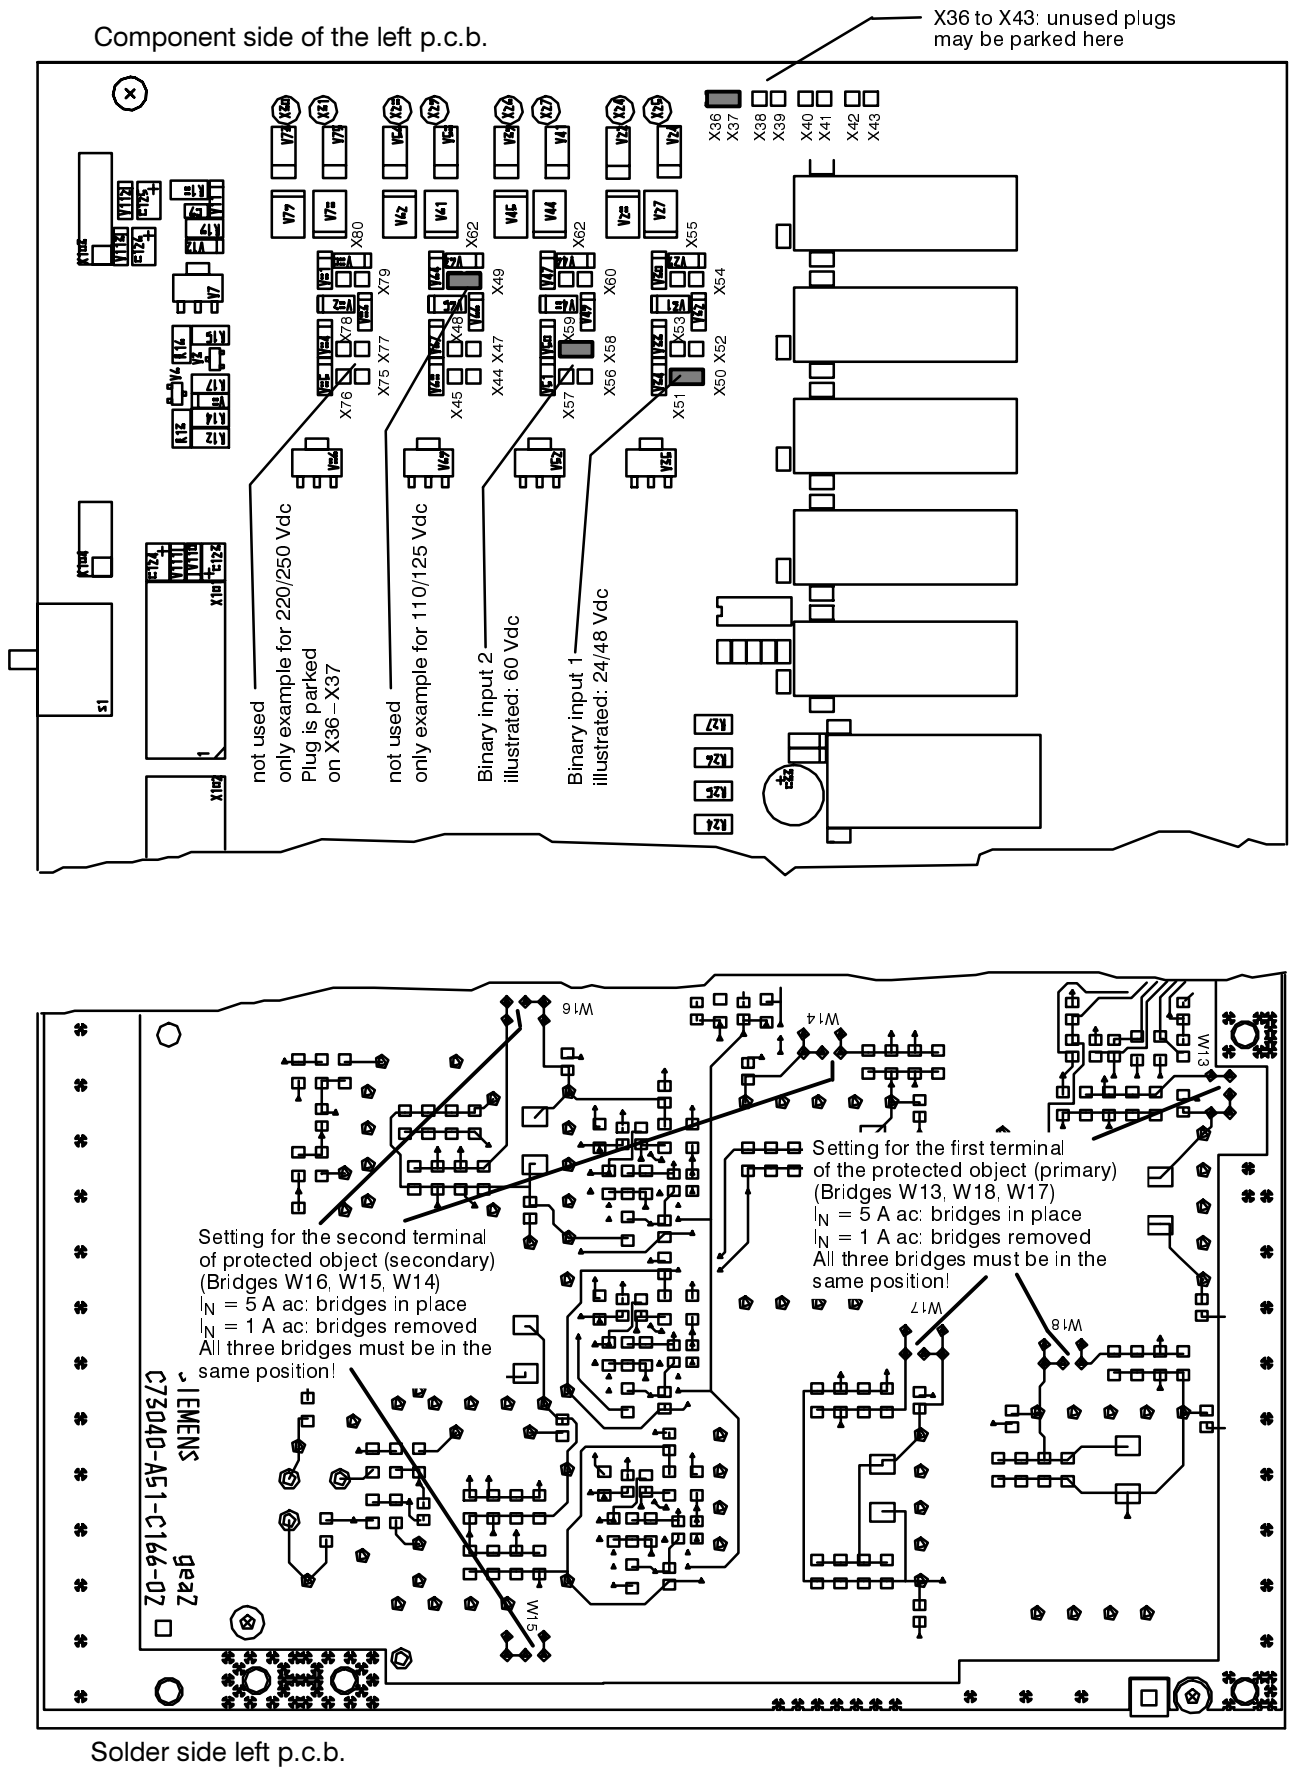
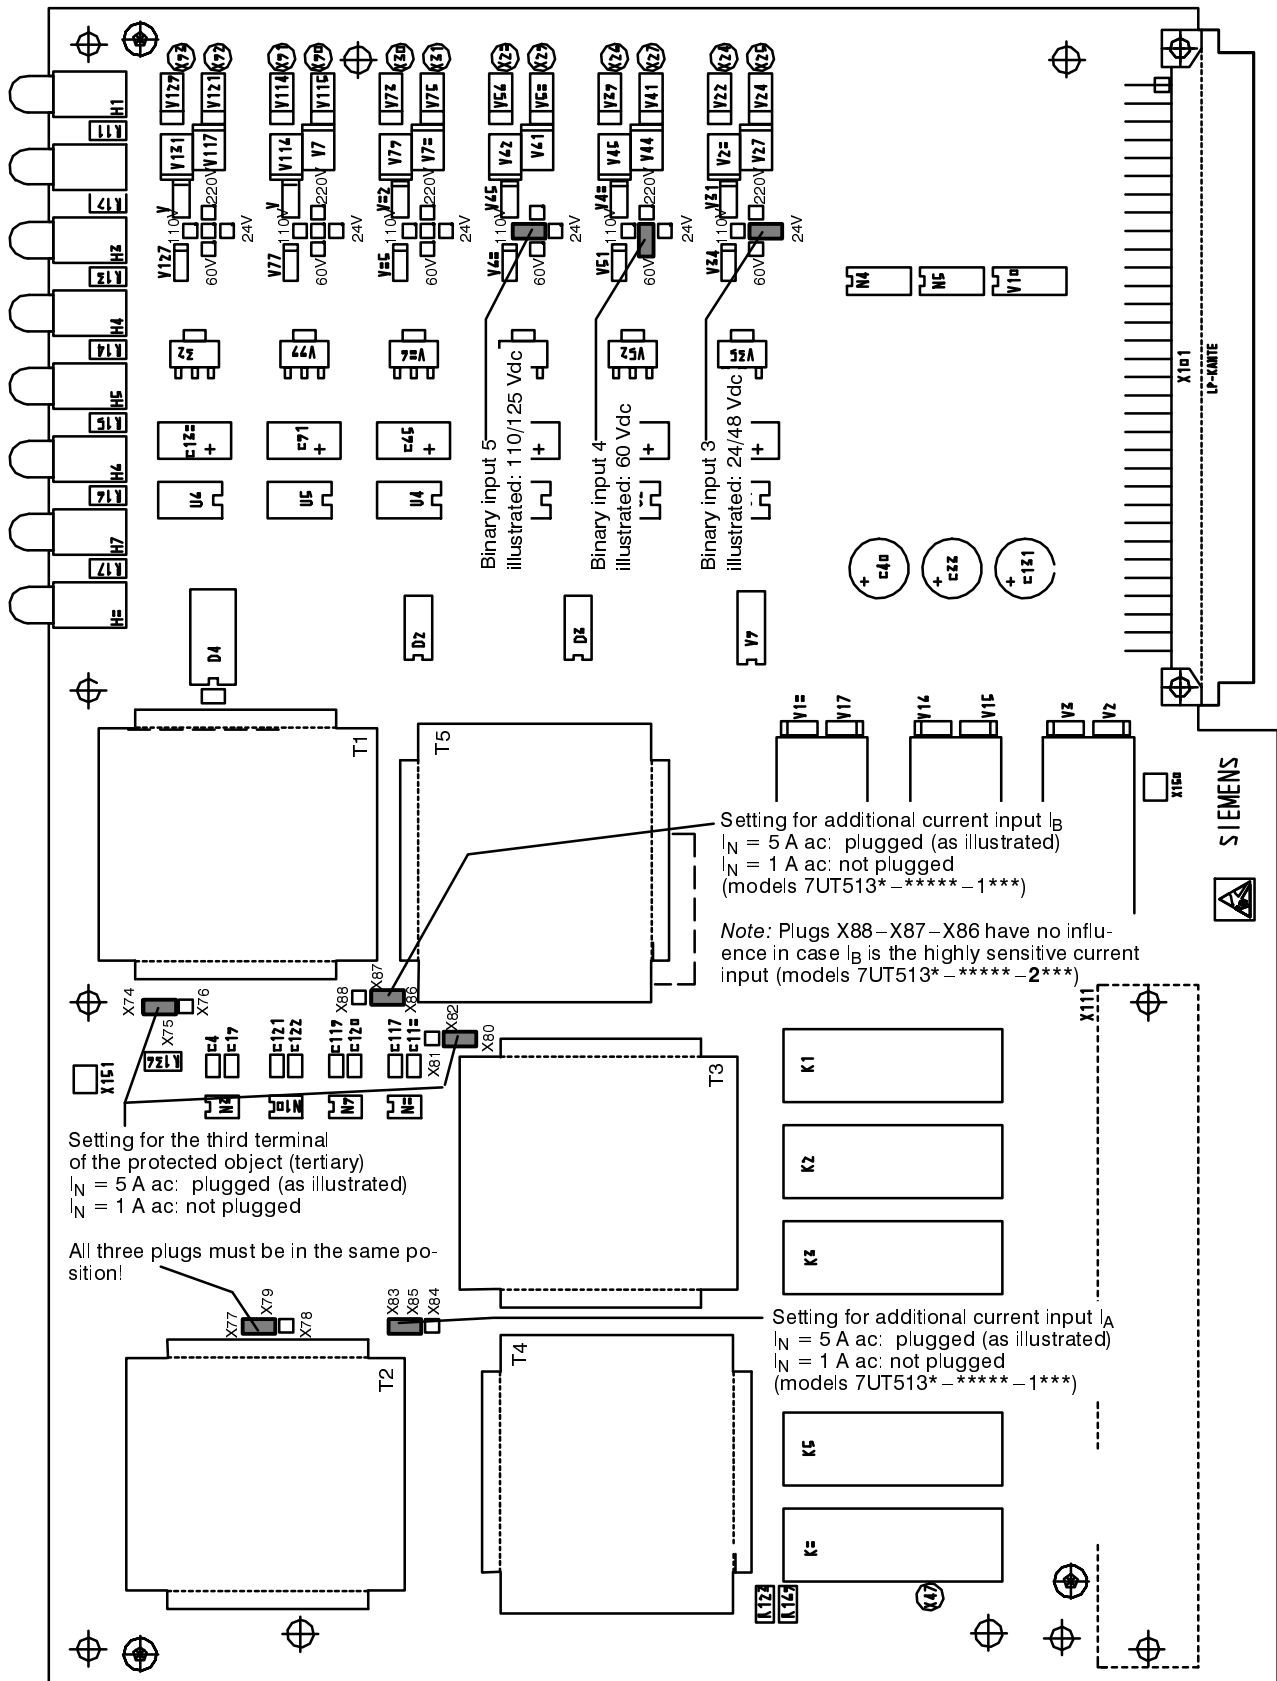

Figure 5.5 Setting plugs on basic input/output module GEA–2, from production series /KK
Figure 5.6 Setting plugs on additional input/output module ZEA-2 (7UT513 only), from production series /KK
- In order to change a 5 A input into an 1 A input, bridges or jumpers must be removed. Figure 5.5 shows reconnection of the rated currents with solder bridges, for the first and second terminal side of the protected object. Cut and bend them aside. Figure 5.6 shows reconnection of the rated currents with plug jumpers, for the third terminal side of the protected object (for 7UT513 only).
For production series from /KK: check the plugs according to Figure 5.5.
For production series from /KK: check the plugs according to Figure 5.6.